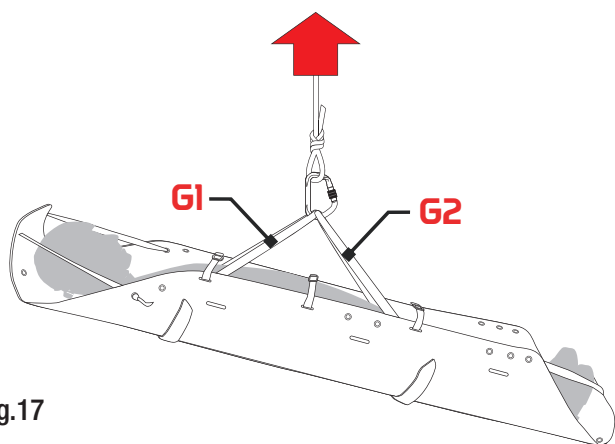

Fig.17
Static resistance Verified by lifting with the Hanging Kit (fig.17):	1500 kg
- **Lifting and lowering (fig. 17)** with the hanging kit (G)